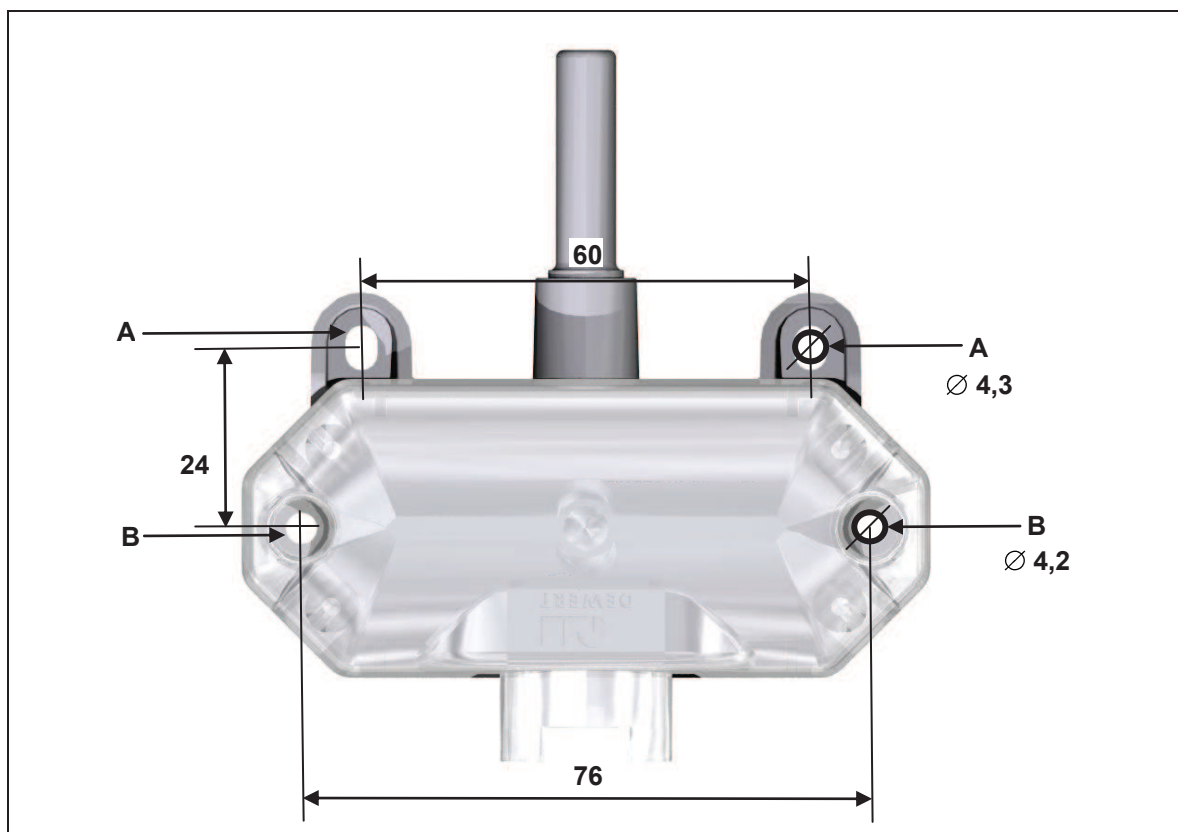

Figure 5 Mounting holes in the floor lighting (dimensions in mm)
The floor lighting can be screwed onto the end product using the mounting holes. Use at least two suitable screws (for example, at mounting hole A: a 3.9 x 15 screw; at mounting point B: a 3.9 x 30 screw – also refer to Figure 5). The floor lighting must lie flat and level on its supporting surface. It should only be fastened under the end product or to a double drive. In the end product, no mechanical forces should be put on the floor lighting. Such forces could lead to damage (such as cracks) in the housing.
- 2 Use at least two screws per lamp when attaching the floor lighting. (The mounting holes are shown in Figure 5.)